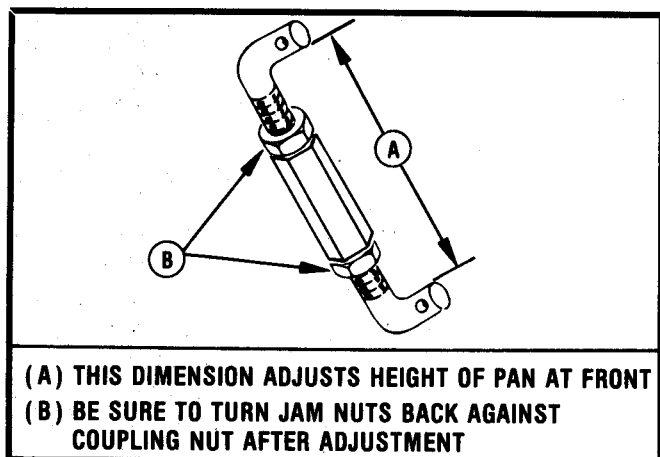

FIGURE 1-15
- b. Adjust the jam nuts to allow movement of the coupling nut. By turning the two front lift links (to maintain equal threading into the coupling nut) the length of the complete front lift link may be extended or decreased. See Figure 1-15. Turn links "IN" for shorter dimension to raise mower and mower blade. Turn "OUT" to lower.